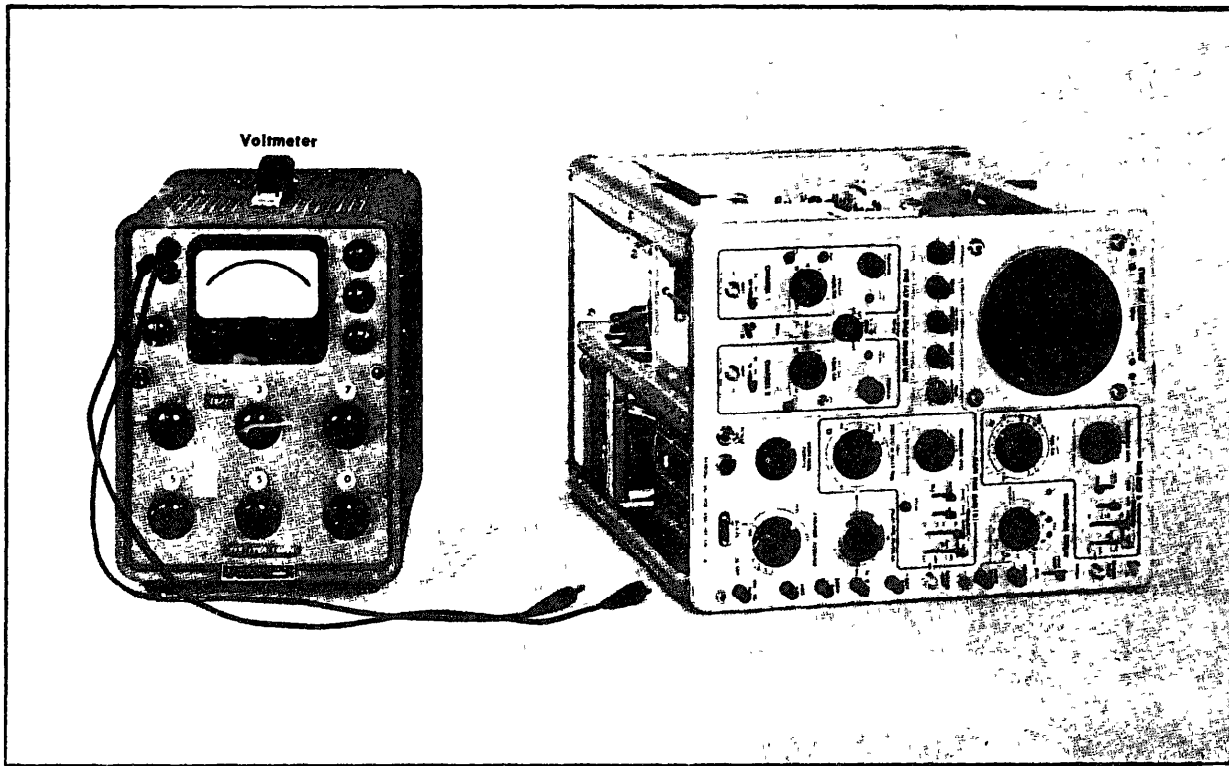

Fig 7-3 Initial equipment setup for steps 1 through 4
- a. Equipment setup is shown in Fig 7-3